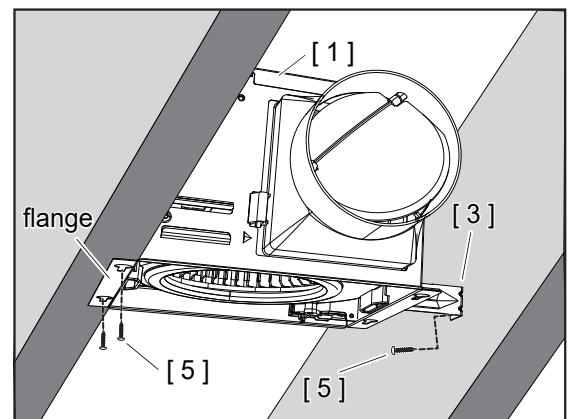

Fig 8
2. Position and hold the Fan Body [1] to the joist (truss or framing) as figure shows. Make sure the flange of housing is flush to the edge of joist. (Fig 8)
3. Secure the flange with Long Screws [5] as figure shows. (Fig 8)
4. Secure the Long Bracket [3] to joist with one Long Screw [5]. (Fig.8)